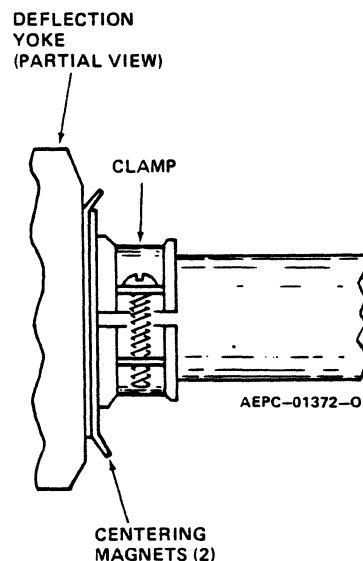
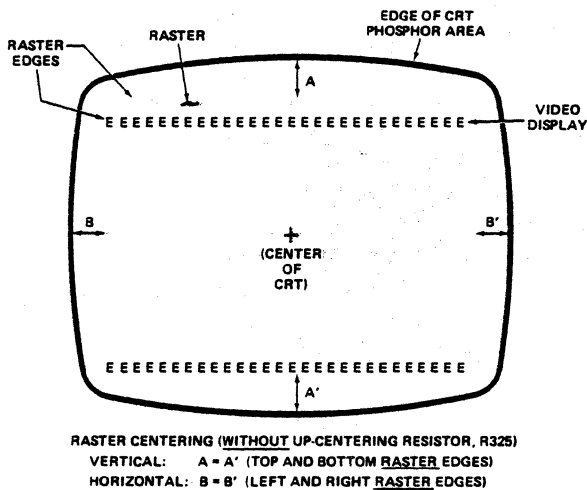
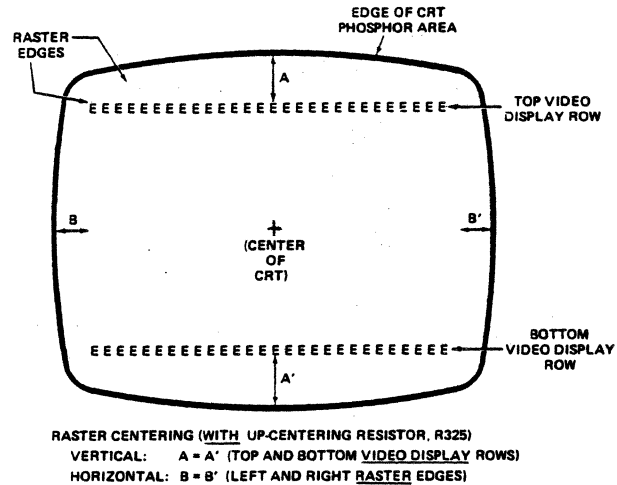

Figure 8. Partial View of CRT Neck/Deflection Yoke - Centering Magnets
Figure 9. Raster Centering Without Up-Centering Resistor, R325
Figure 10. Raster Centering With Up-Centering Resistor, R325
- Step 1. Turn up the Remote Brightness control (R213) until the four (4) edges of the raster are visible.
- Step 2. (Reference Figure 8.) Rotate the two (2) centering magnets (simultaneously) until the raster is centered (horizontally and vertically) within the active phosphor area of the CRT. (Reference Figure 9.)
- Step 2. (Reference Figure 8.) Rotate the two (2) centering magnets (simultaneously) until the left and right edges of the raster are centered horizontally, and the top and bottom edges of the video display are centered vertically within the active phosphor area of the CRT. (Reference Figure 10.)